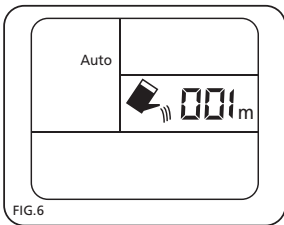

FIG.6
7.3. SET LENGTH OF WATERING SESSION - FIG. 6